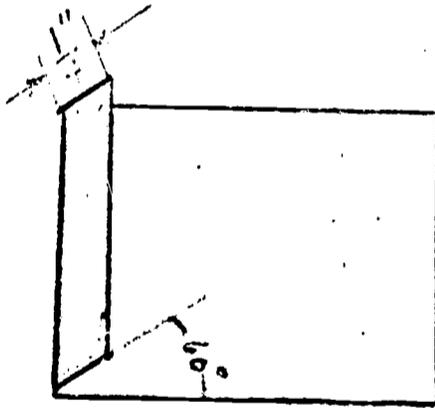

Fig. 3 Sharp-angle bend made with hand seamer.
5. Now turn the edge to a 60 degree angle. Check the angle with a 60 degree triangle or a T-bevel that has been set for 60 degree. See Fig. 3. This procedure is used to bend an angle of any degree desired.